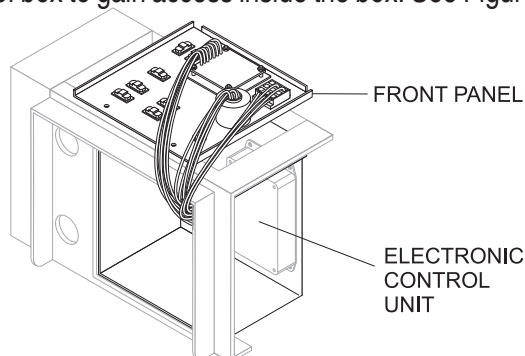

Figure 34. Pulling Out Control Panel
2. Tilt and slowly pull out the control panel and place on top of box to gain access inside the box. See Figure 34.